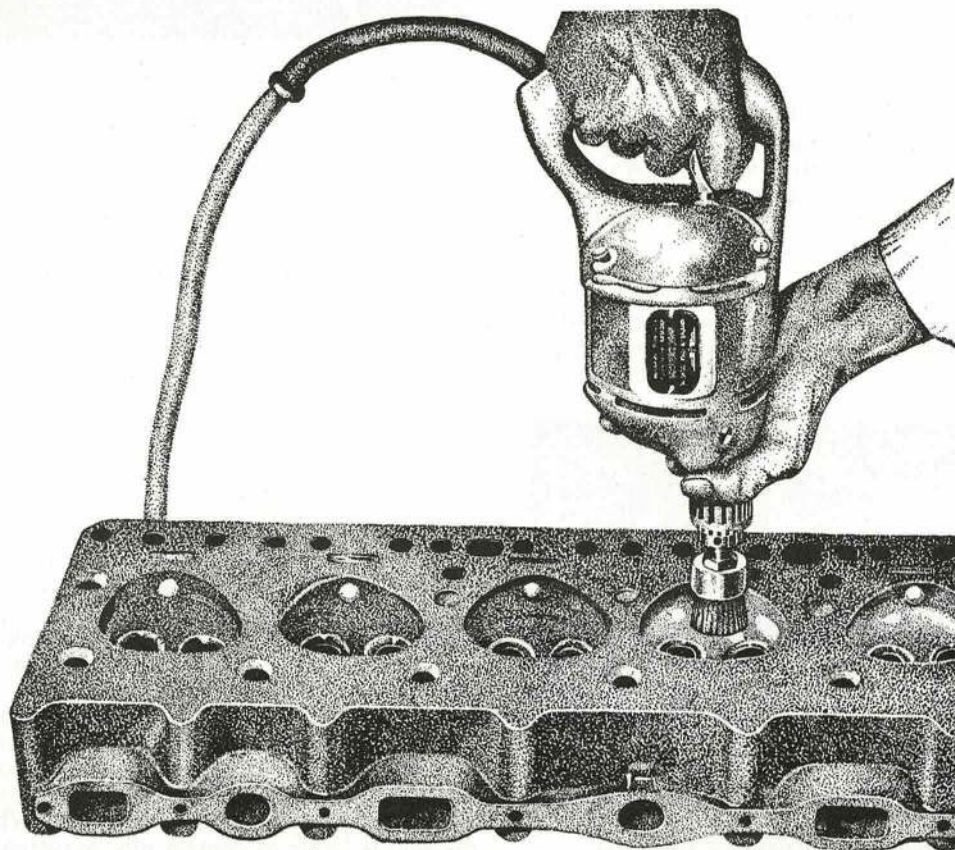

Fig. 10. CLEANING A CYLINDER HEAD
17. Although the chemical carbon removers described in this chapter will remove most of the carbon, certain parts of the engine such as piston ring grooves, will have a hard carbon deposit which will have to be removed by careful scraping; a strip of aluminium may be found useful for this purpose. Cylinders heads, valve ports and piston crowns may be cleaned with approved scrapers or with power-driven rotary brushes (Fig. 10). Carbon may be removed from